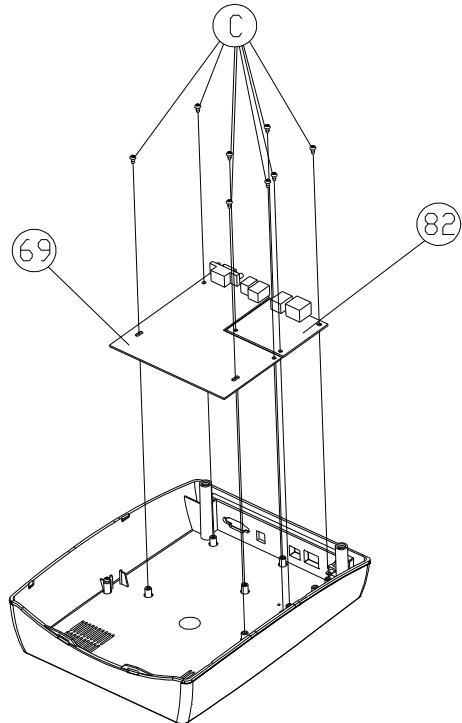

Figure 10.3.3
7. Remove the 8 screws (D) which fix the main board (69) from the bottom (71). Then remove the defected main board as shown in Fig. 10.3.3.